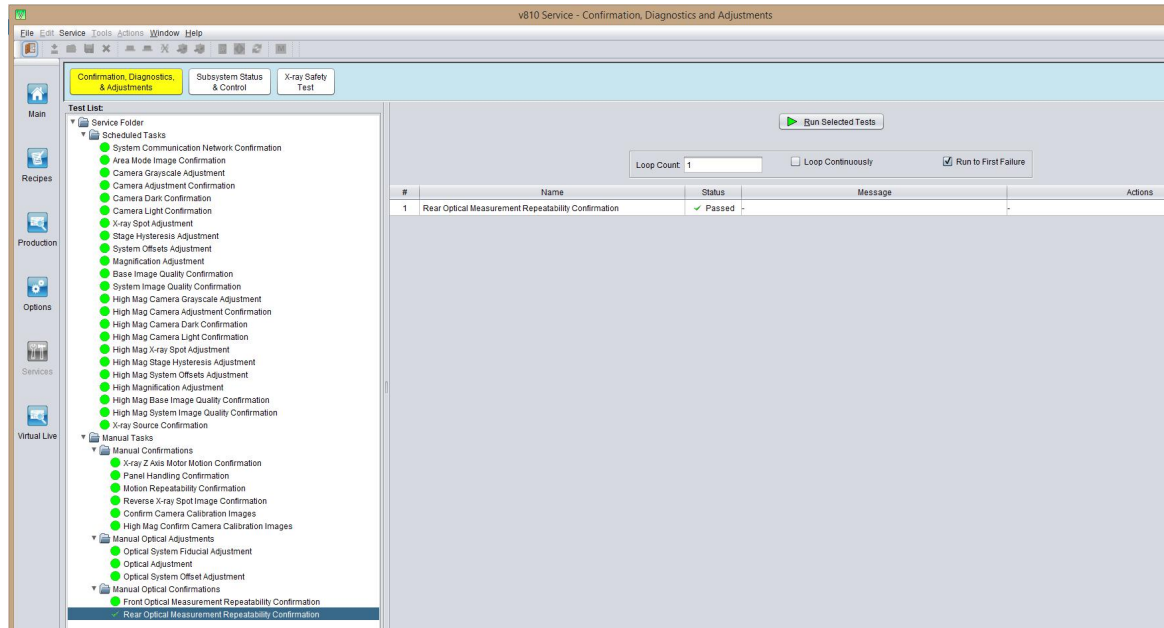

Figure 59 Front Optical Measurement Repeatability Confirmation Passed
43. Once outer barrier open as shown in the Figure 58, remove the on rail jig from the machine. After the outer barrier close, the GUI will show the test have passed or failed as shown in the Figure 59.